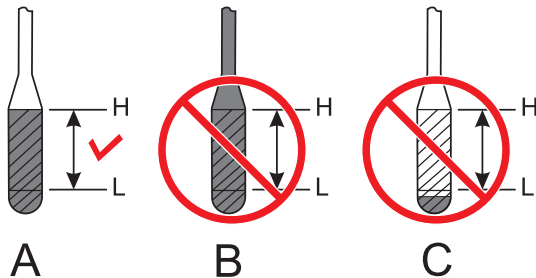

Figure 34. Engine Oil Level
3. Reinsert the dipstick, then remove the dipstick from its holder. Check the oil level shown on the dipstick (Figure 34).
4. Verify that the engine oil level is maintained between the H and L markings on the dipstick as shown in Figure 34.